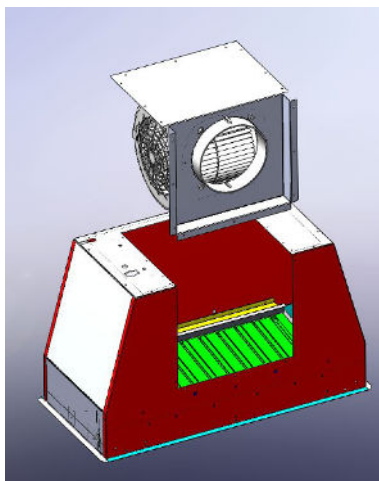

FIG. 10
- › Rotate the motor to have the air outlet on the rear side and then fix the screws previously removed (Fig.10).